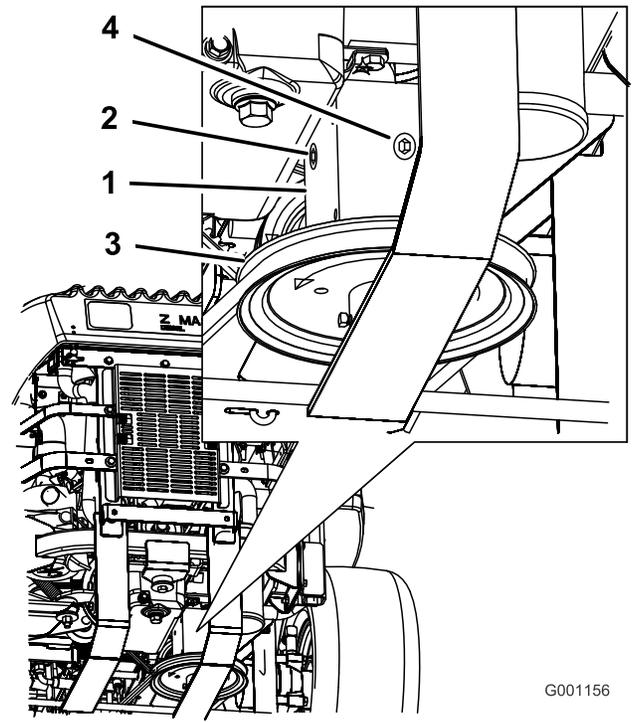

Figure 51
- Remove the side or rear plug on the gear box. (Figure 51).